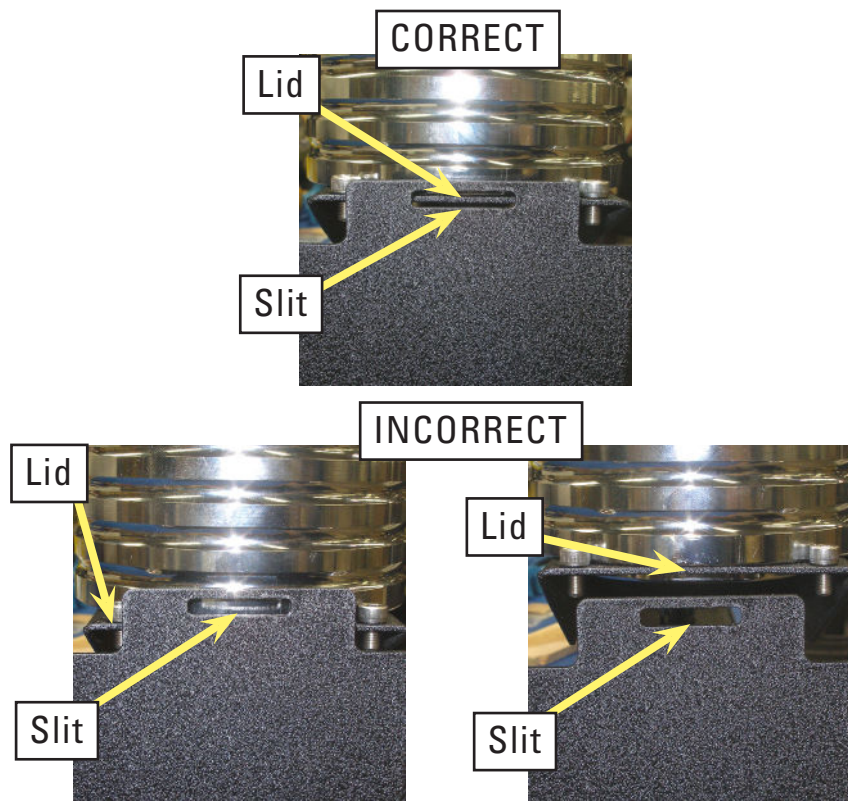
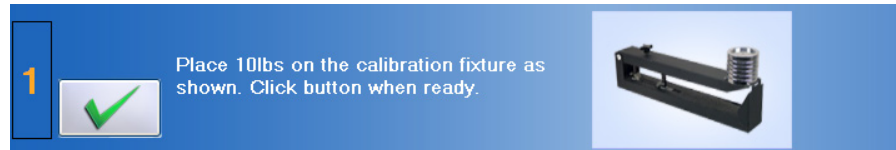

Figure 5-7. Proper Location of Lid after Weight is Applied
Figure 5-15. Hand Grip - Verify the Weight
- After the weight is on the lid, verify the front edge of the lid is visible through the slit, which is at the top front edge of the base (Figure 5-7).
visible through the slit (Figure 5-7).
Step 7. Place the 10 lb calibration weight on the fixture. Make sure the lid is visible through the slit (Figure 5-7).
Step 2. Place the 10 lb calibration weight on the fixture and click on  to verify the weight (Figure 5-15). Make sure the lid is visible through the slit (Figure 5-7).